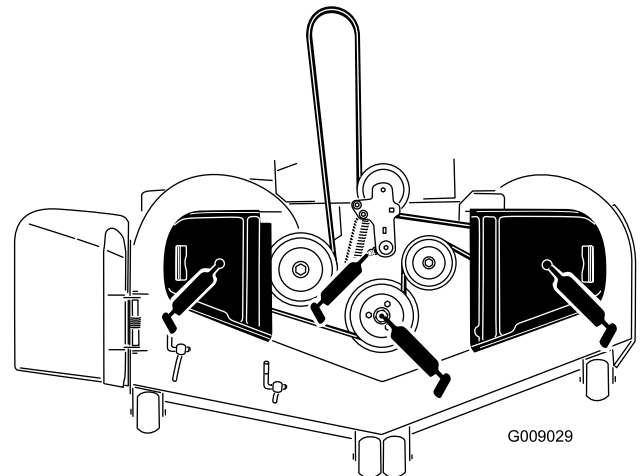

Figure 42
3. Grease the mower deck idler pulley pivot until grease come out the bottom (Figure 42).
4. Grease the three spindle bearings until grease comes out the lower seals (Figure 42).
5. Grease the drive belt idler arm (Figure 42).